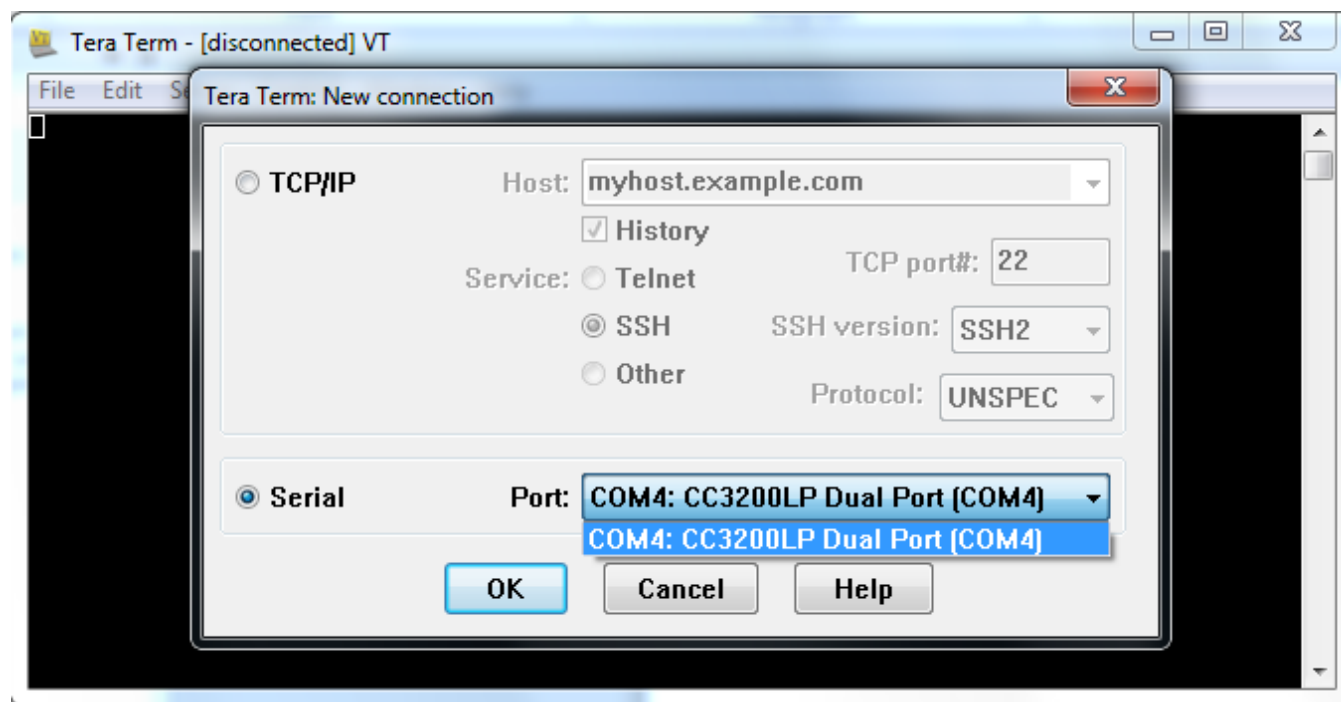

Figure 13. Launch Tera Term
- Launch Tera Term, and create a new serial connection to the CC3200 Launchpad COM port as shown in Figure 13.